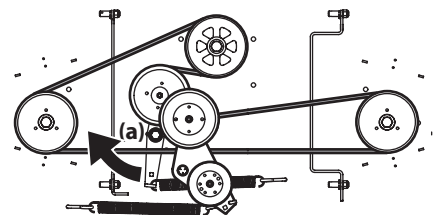

Figure 53
5. Using a 1/2" drive insert the end into the 1/2" square opening in the deck idler assembly (a) and rotate the deck idler assembly (a) clockwise. See Figure 53. While holding the deck idler assembly (a), loosen the deck belt from the pulley and slide the belt away from the pulley.
6. Route the new belt as shown in Figure 53. Then reinstall the deck and PTO belt.